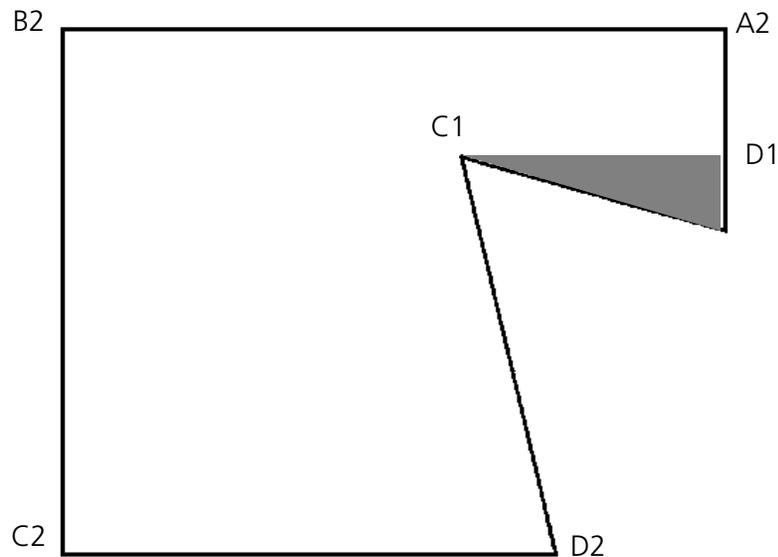

Figure 3-57
2. Enter a Mk1 at A2 in the illustration in Figure 3-57 and another Mk1 at B2 to define the first line of the fill.
4. Now enter a Mk2 at point B2 in the illustration in Figure 3-57 to identify the start of the first side of the second fill. Review rule #4 if you have a question on this step.